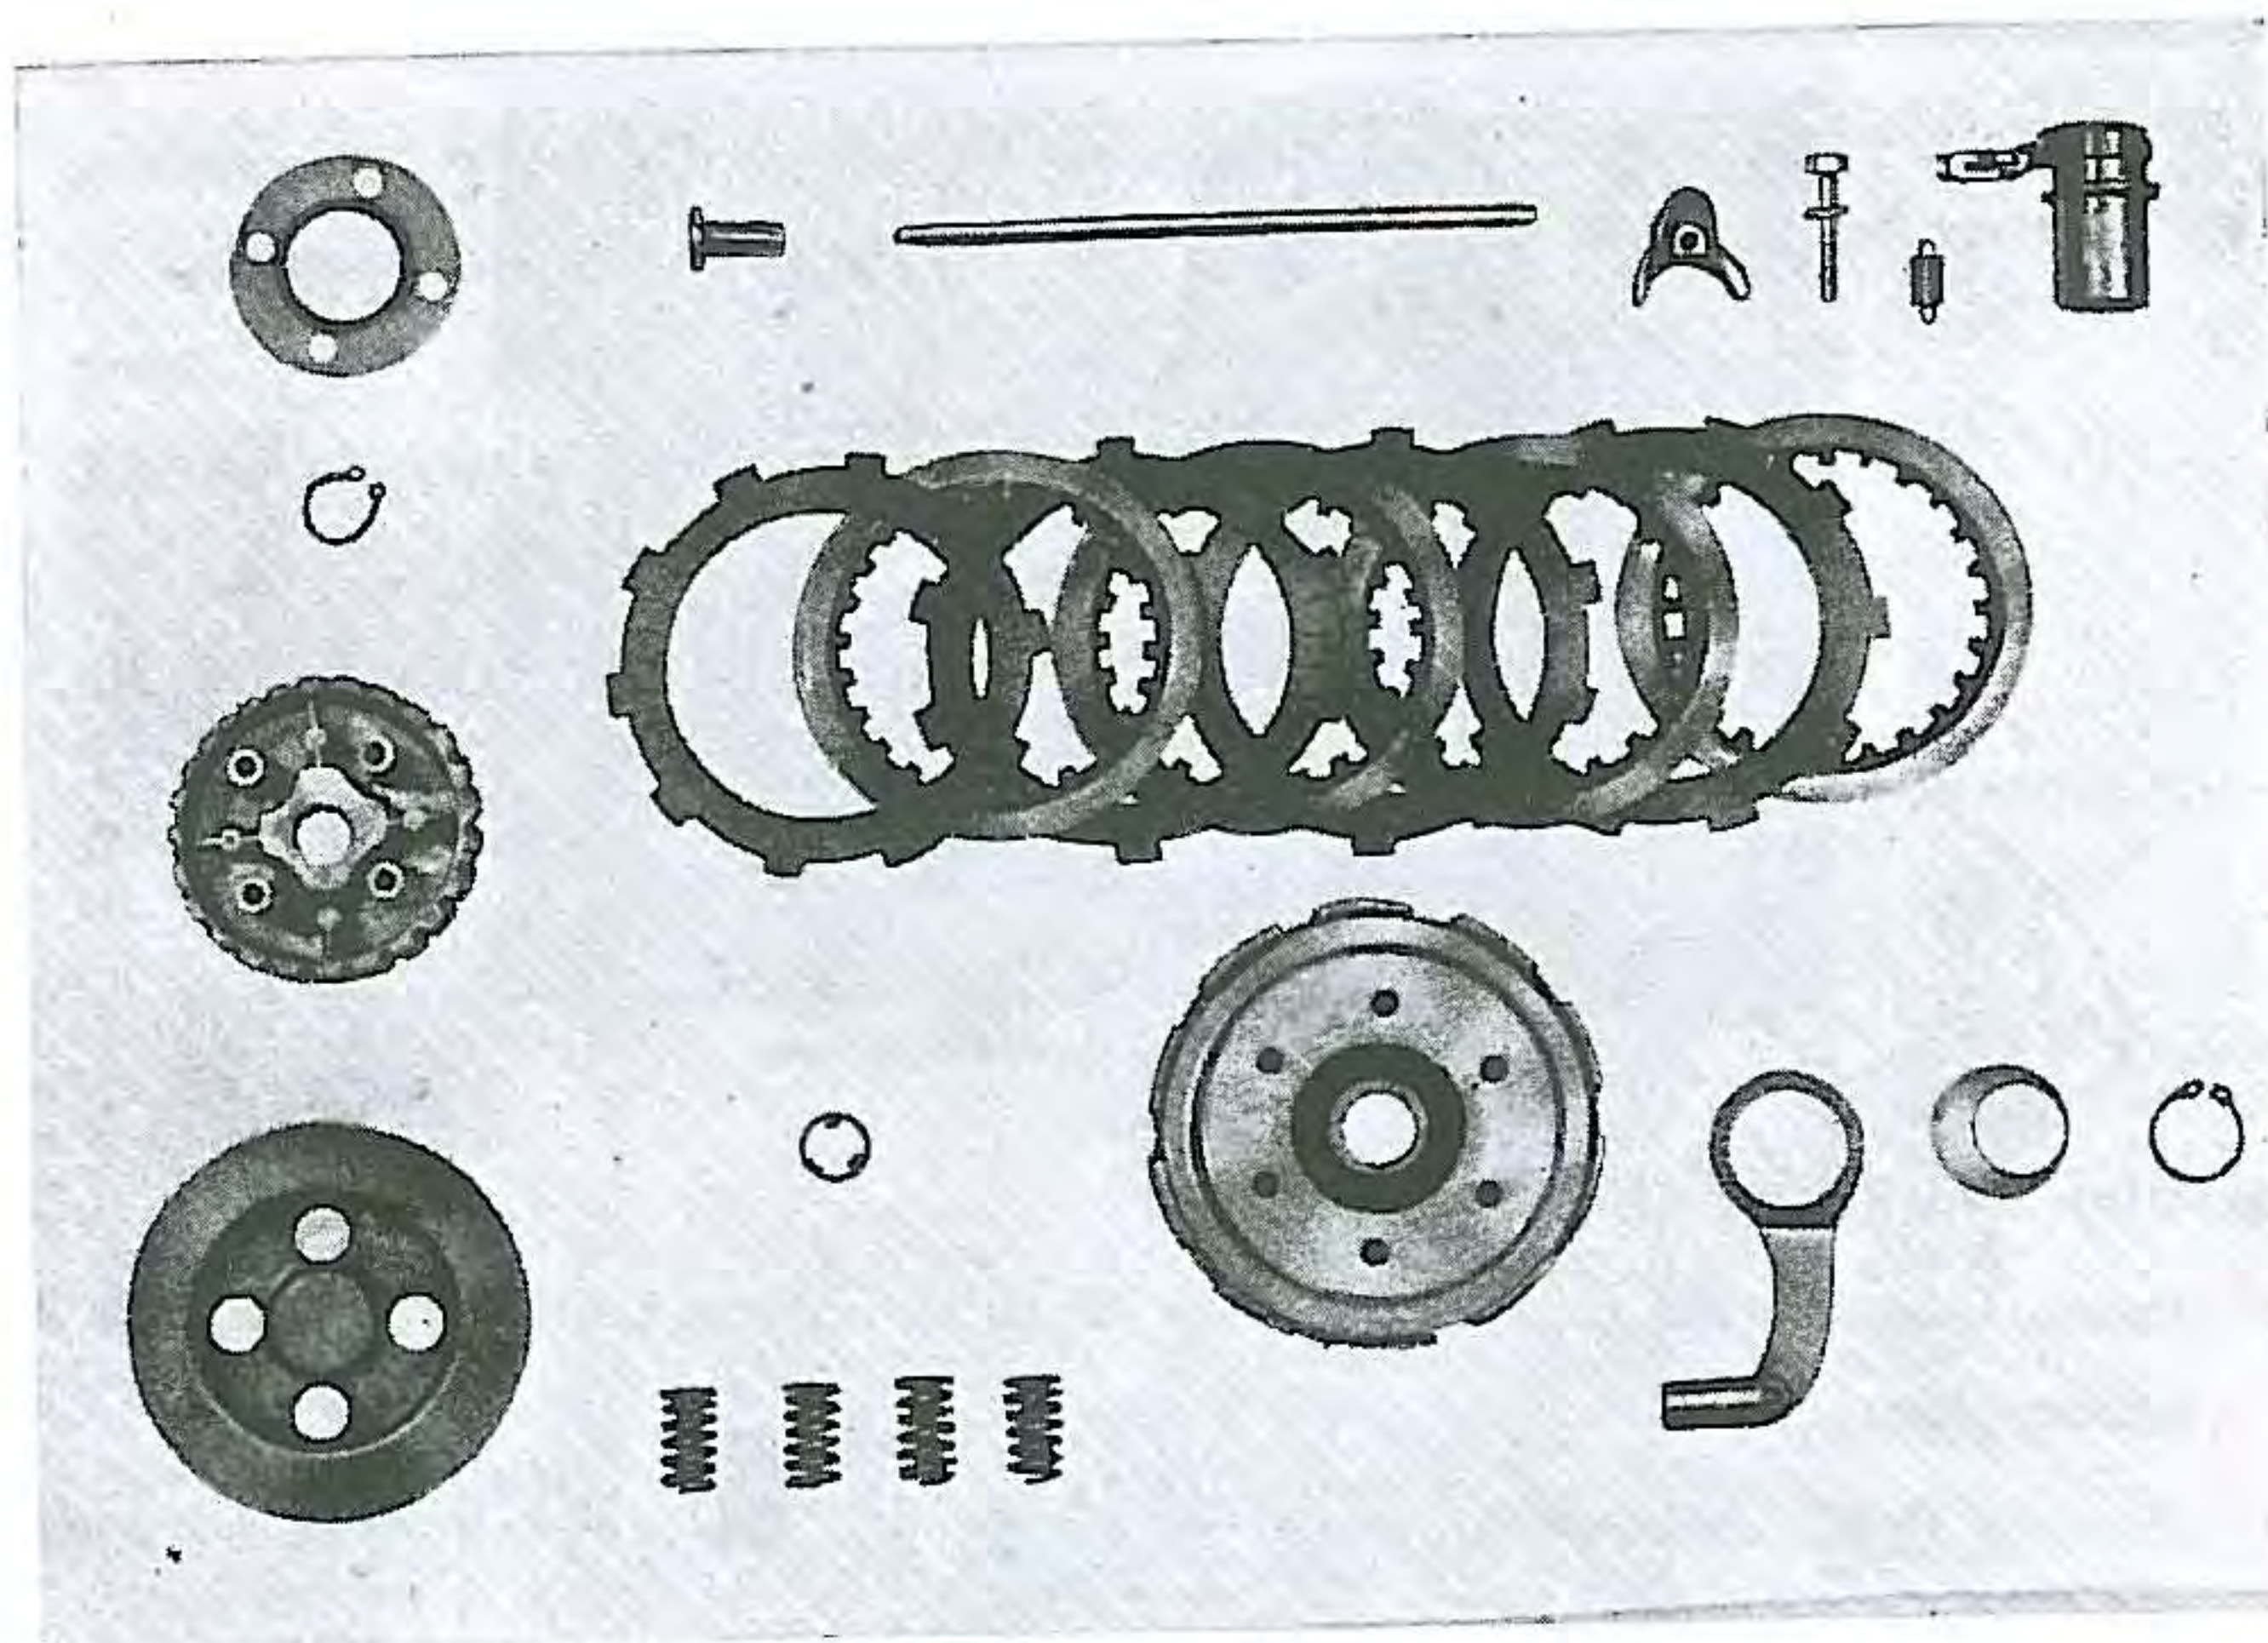

Fig. 81. Display of clutch parts
- (1) After the gear shift arm and kick starter spring and other relevant parts are completely installed on the crank case, the clutch assembly should be commenced. (Fig 81)
- (2) Insert 20 mm thrust washer on the transmission shaft, position the oil pump gasket